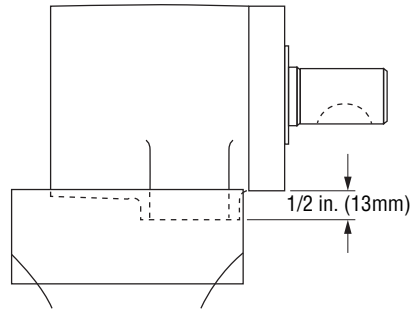

Figure 5-34, Motor Clamping
14. After removing the bullet, clamp the motor in a vise. Make sure the shaft cannot fall out. Install dry capscrews and alternately torque them immediately to 250 lb-in. If you use a primer, allow to cure for 10 to 15 minutes. Without primer, allow 6 hours for curing time before subjecting the motor to high torque reversals. On all other applications, you can run the motor immediately. (Figure 5-34)